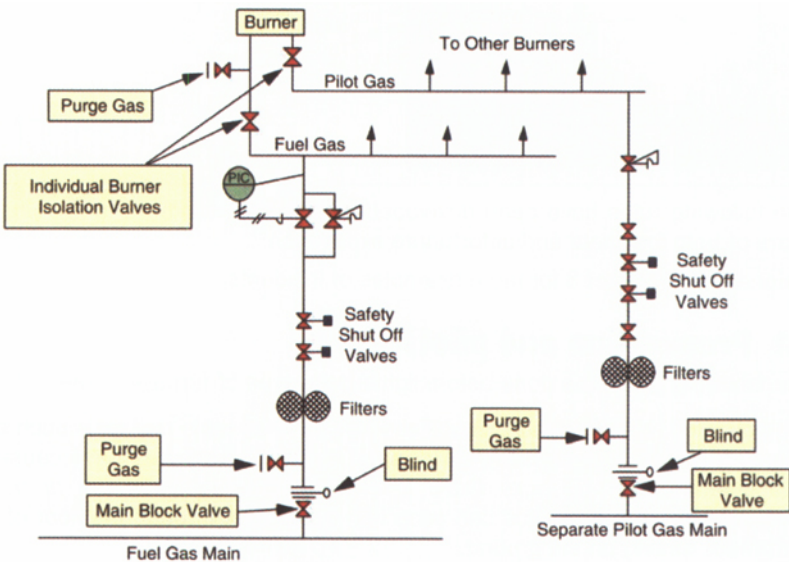

Figure 39 Sketch of pilot gas and fuel gas lines.
4. Be sure that fuel valves and cocks at the burners are tightly closed (see Figure 39). An open or leaking valve can result in an explosive firebox mixture.
After the heater is examined, the fuel lines to each individual burner are purged through with nitrogen. The nitrogen supply is connected downstream of the main block valve and isolating blank/blind in each fuel line to the heater (fuel oil, fuel gas and pilot gas) as shown in Figure 39.